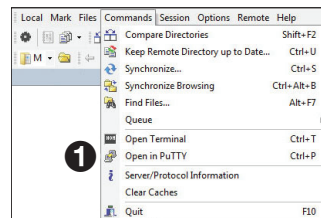

Figure 49. Open a Command Window Session
1. Use PuTTY to open a command window session from WinSCP. From the **Commands** menu, select **Open in PuTTY** (see figure 49, ❶).